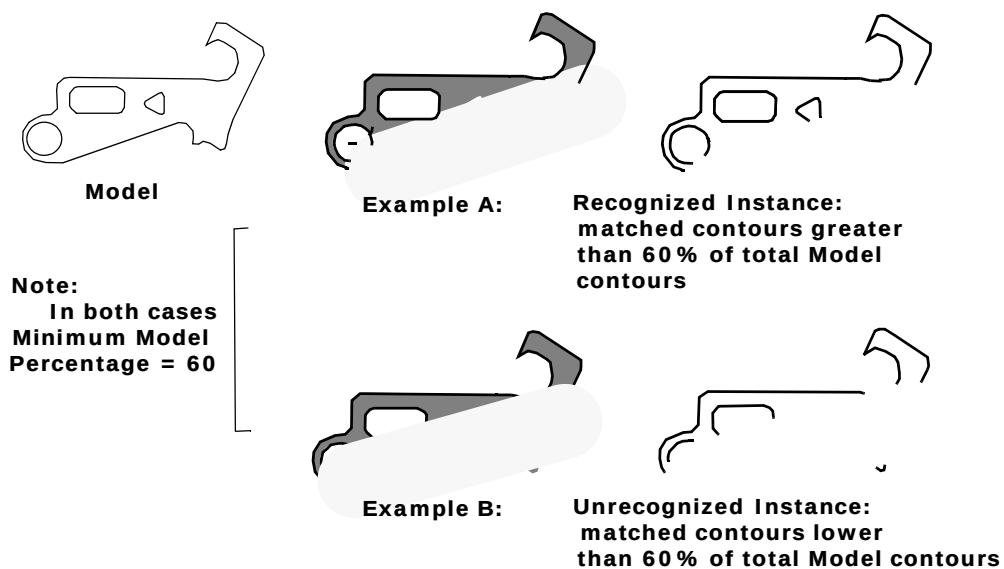
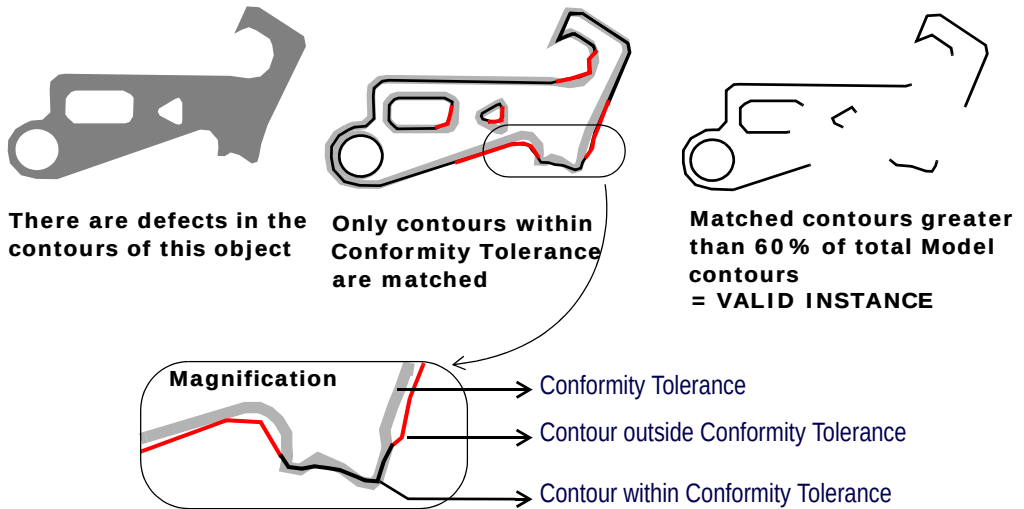

Figure 161 Minimum Model Percentage — Example with Occlusion of Object Contours
Figure 162 Minimum Model Percentage — Example with Defects in Object Contours
- Only those contours that can be found within the conformity tolerance zone are considered. See the magnified representation in Figure 162.
- Decreasing **Minimum Model Percentage** can help detect objects which are either partially occluded (Figure 161) or objects having significant defects in their contours (Figure 162).